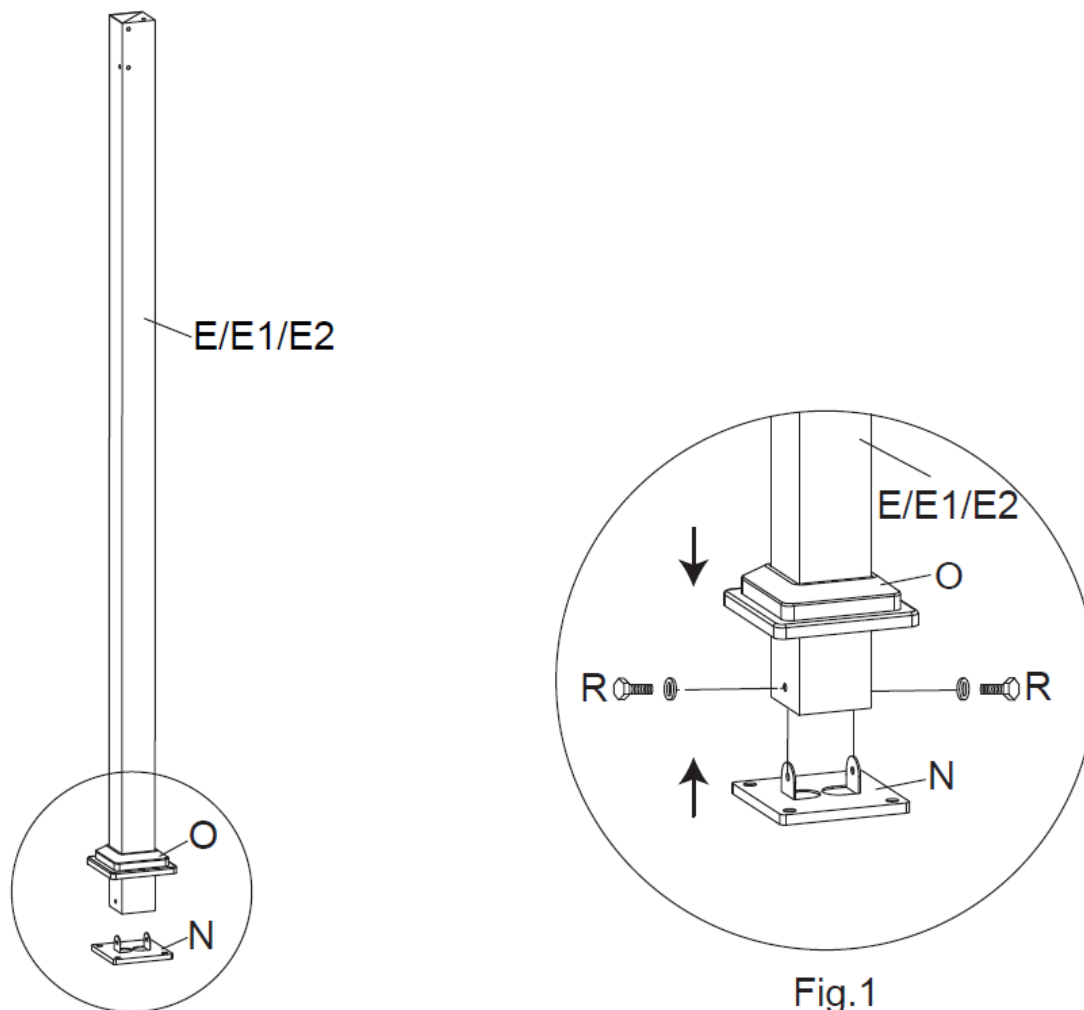

Fig.1
**Step 1:** Insert Corner Posts (E, E1 and E2) into Base Cover (O) and raise them up. Attach Base Plate (N) to Corner Posts (E, E1 and E2) using Bolt and Washer (R). See Figure 1. **Tighten Bolts.**